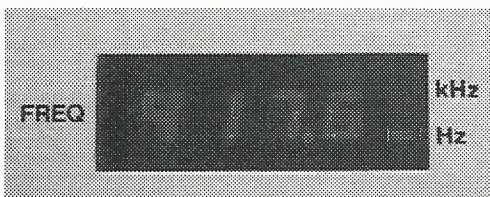

Figure 7. Frequency Counter Close-up View
A four-digit LED Frequency Counter Display (11) indicates the frequency of the input signal. The frequency counter is auto ranging, i.e., it automatically sets the decimal point, and an additional indicator shows whether it is measuring Hz or kHz. Figure 7 shows a close-up view of the display.